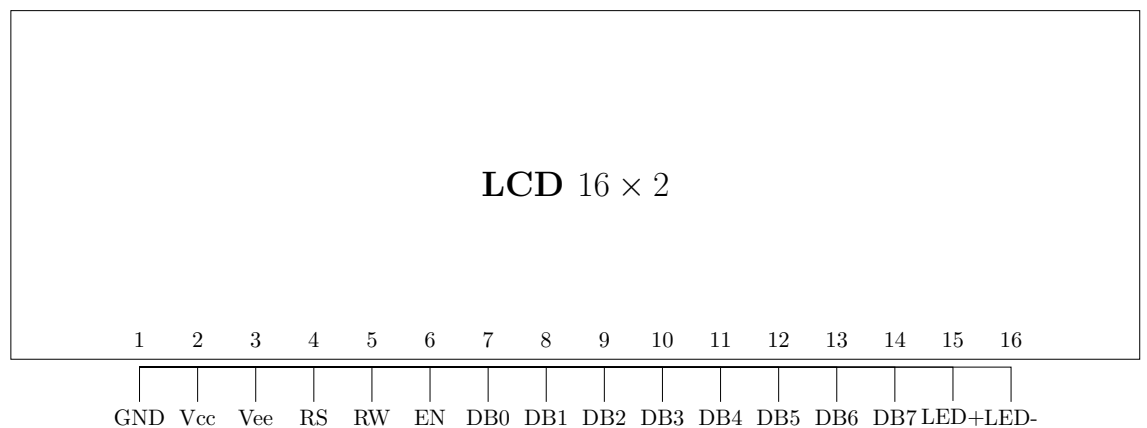

Figure 8.5.2.2.1: LCD
8.5.2.1. Plug the LCD in Fig. 8.5.2.2.1 to the breadboard.